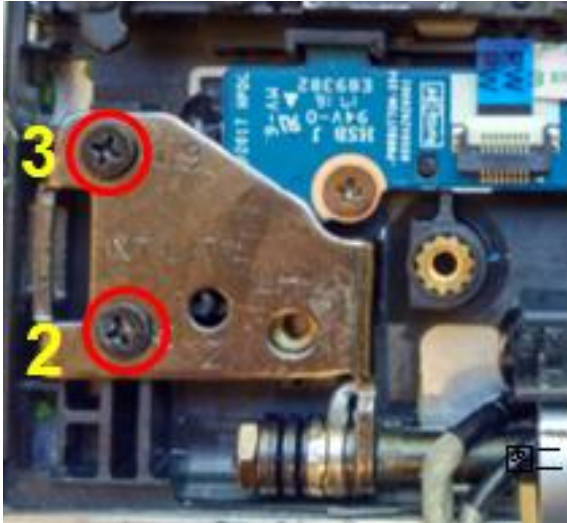

Fig.1
1. Loosen hinge screw*5(M2.5*4.0)(Fig.1/Fig.2).